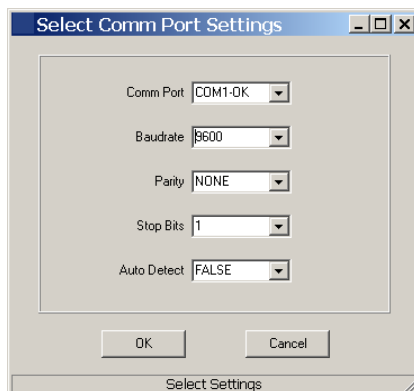

Figure 5
5. Click on Connect to open the Select Comm Port Settings dialog box, as shown in Figure 5. If necessary, set the baud rate to 9600 bps. Set the Comm Port to match the serial port connected to the *Base* - either the hardware port or the USB virtual serial port. Then click OK to activate the serial connection.